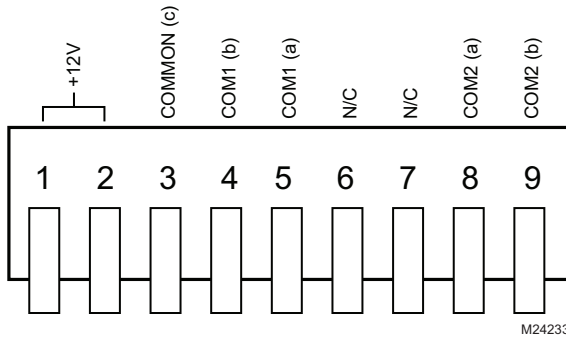

Fig. 14. S7999B connector terminals.
12. Wire the connector to the power supply and the RS-485 cables using the wiring diagram in Fig. 14.